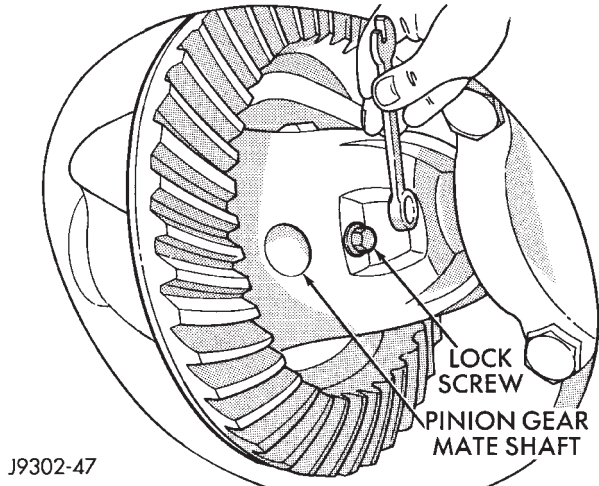
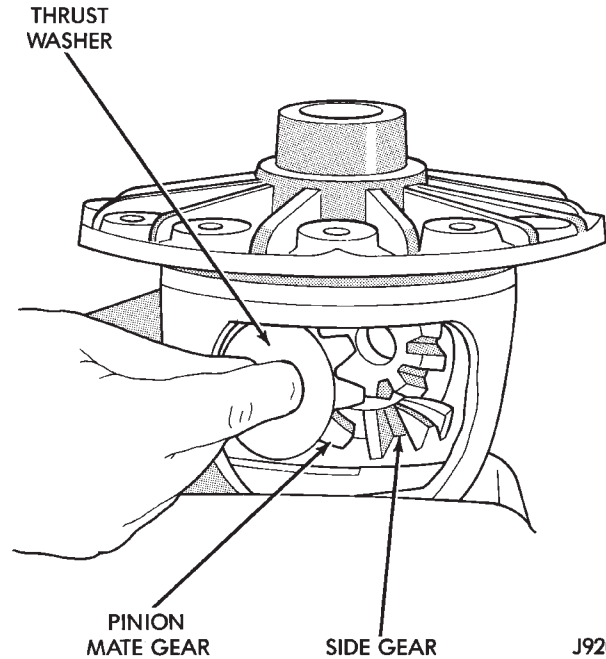

Fig. 61 Pinion Gear Mate Shaft Lock Screw
Fig. 62 Pinion Mate Gear Removal
- (1) Remove pinion gear mate shaft lock screw (Fig. 61).
- (2) Remove pinion gear mate shaft.
- (3) Rotate the differential side gears and remove the pinion mate gears and thrust washers (Fig. 62).
- (4) Remove the differential side gears and thrust washers.